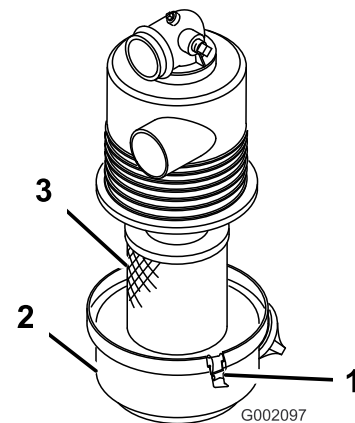

Figure 24
2. Check the air cleaner for damage, which could possibly cause an air leak. Ensure the cover is sealing around the air cleaner body (Figure 24).
3. Release the latches securing the air-filter cover to the air-filter housing (Figure 24).
4. Separate the air-filter cover from the air-filter housing, and clean the inside of the cover (Figure 24).